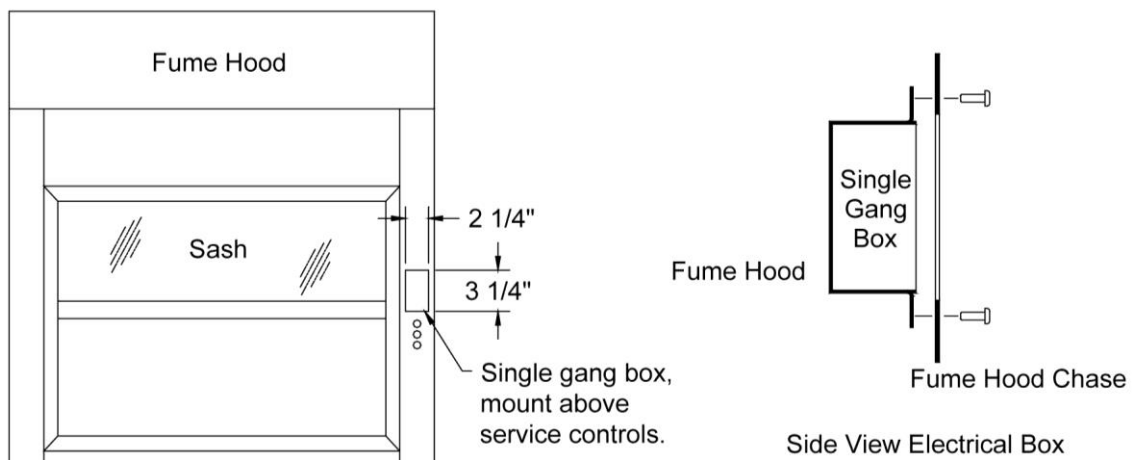

Figure 1: Mounting Location and Electrical Box
1. Select the mounting location for the Controller or Monitor. The Controller or Monitor is typically mounted above the service controls (Figure 1).
2. Cut a hole at this location, sized to mount to a standard single gang electrical box, 2¼" (57.2 mm) wide by 3¼" (82.6 mm) long (Figure 1).
3. Mount a single gang electrical box in the cutout location (Figures 1 and 2).
2. Cut a hole at this location, 2¼" (57.2mm) wide by 3¼" (82.6mm) long (Figure 1).